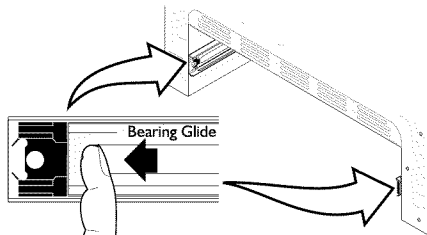

Fig. 15
- Pull the bearing glides to the front of the chassis glide (See Fig. 15).